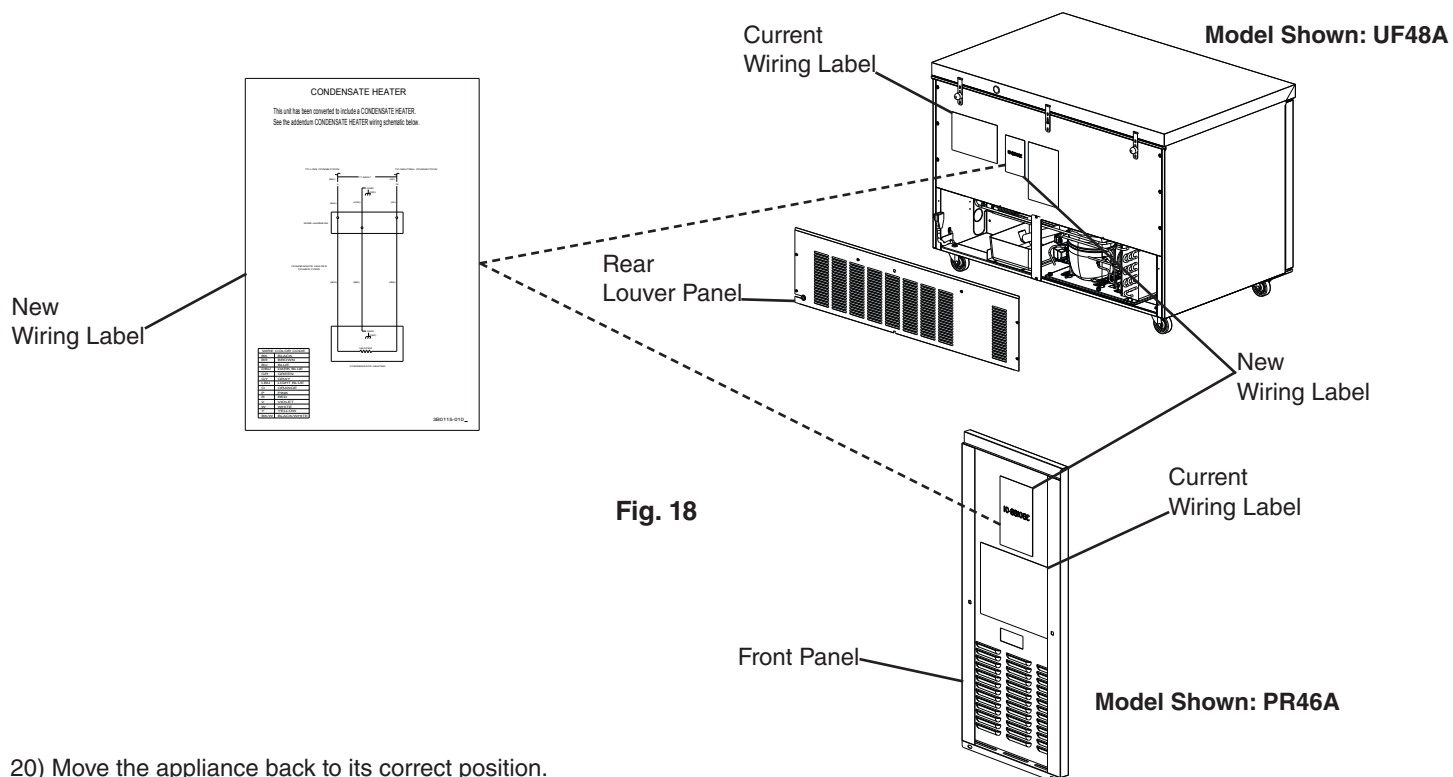

Fig. 18
- 16) Place the wiring label provided in this kit, near the wiring label on the appliance. See Fig. 18. **Warning! Confirm that nothing is in contact with the condensate pan heater.**